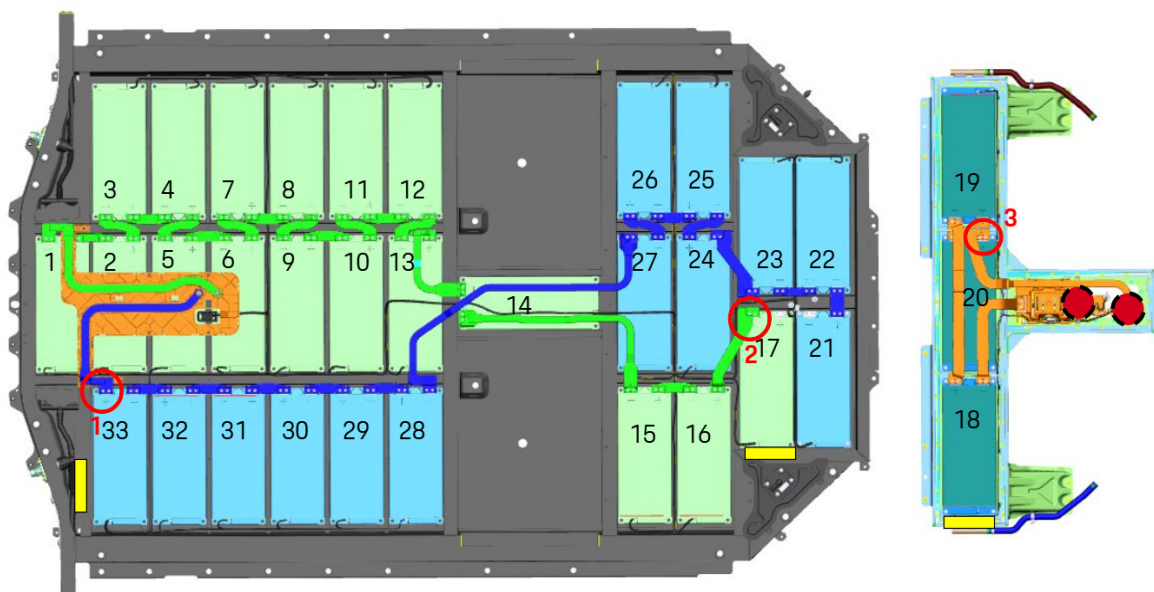
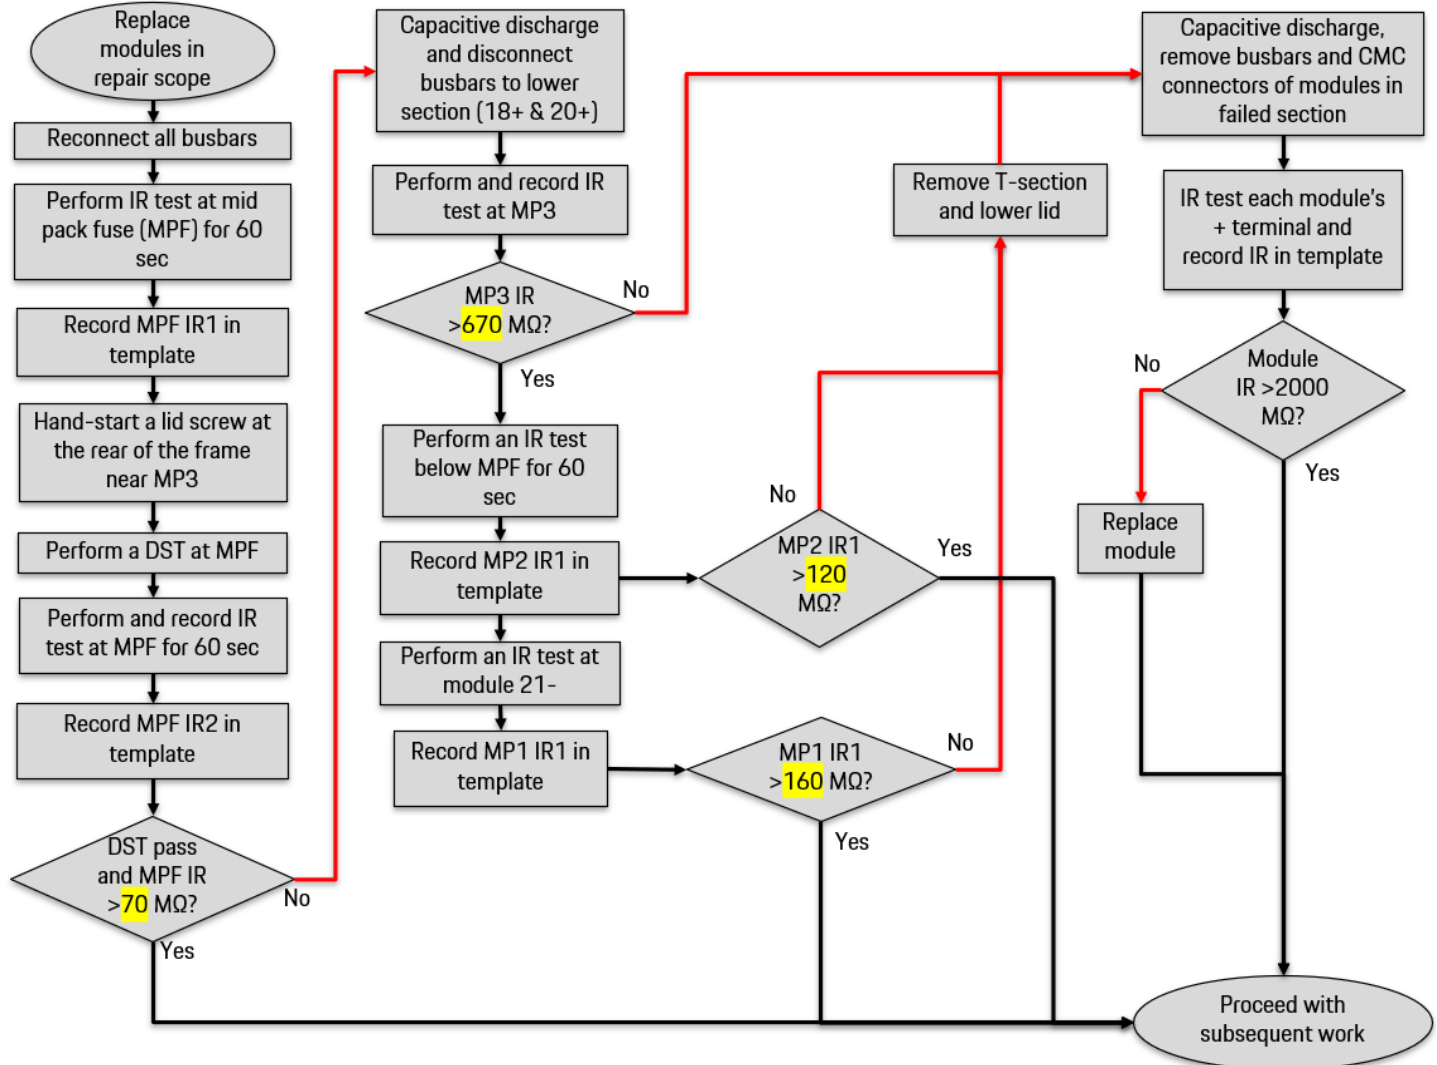

Figure 3 - 33-module HV Battery measurement points
Figure 5 - 33-module Upper Section Flowchart
DST Procedure for 33-module Taycan Battery Pack (Figure 3)
- Repair scopes in only the upper "T" section require an initial DST at the mid-pack fuse as shown in step 3.9.3 of Safety test after assembly work on the high-voltage battery with 33 modules in WM 270803A5 instead of point 3 in *Figure 3*.
- The yellow boxes in *Figure 3* designate the section of frame where a lid screw can be hand-started to ground the dielectric strength tester. If performing a DST on the mid-pack fuse, use the location on the upper "T" section to ground the negative clamp as described in the General DST Procedure Updates section.
- For repair scopes only in the upper level, IR test the upper and lower sections separately after an initial DST failure according to the flowchart in *Figure 5*.
- These measurement points identified below the mid-pack fuse in *Figure 3* serve as alternates to MP1 and MP2 as referenced in the *Figure 5* flowchart when the lower lid is still installed.